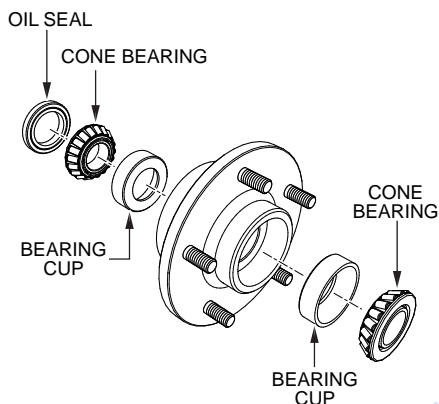

Figure 40. Wheel Hub and Bearings
1. After **every 3 months** of operation, remove the hub dust cap and inspect the wheel bearings (Figure 40). Once a year, or when required, disassemble the wheel hubs remove the old grease and repack the bearings forcing grease between rollers, cone and cage with a good grade of high speed wheel bearing grease (never use grease heavier than 265 A.S.T.M. penetration (“No. 2.”)).
2. Fill the wheel hub (Figure 40) with grease to the inside diameter of the outer races and also fill the hub grease cap. Reassemble the hub and mount the wheel. Then tighten the adjusting nut, at the same time turn the wheel in both directions, until there is a slight bind to be sure all the bearing surfaces are in contact.